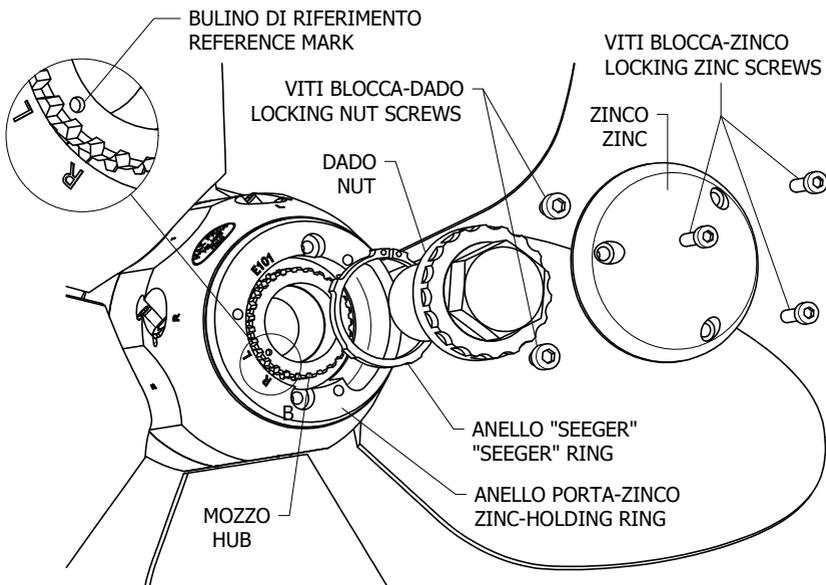

fig. 6
In order to change rotation of your MAX PROP propeller, from right-hand rotation to left-hand rotation or vice versa, operate as follows referring to fig. 6.
- f. If you place the zinc-holding ring in its seat again, by matching the "R" tooth with the hub reference mark, you will have a right-hand propeller, on the contrary by matching the "L" tooth with the hub reference mark you will have a left-handed propeller (see fig.6).